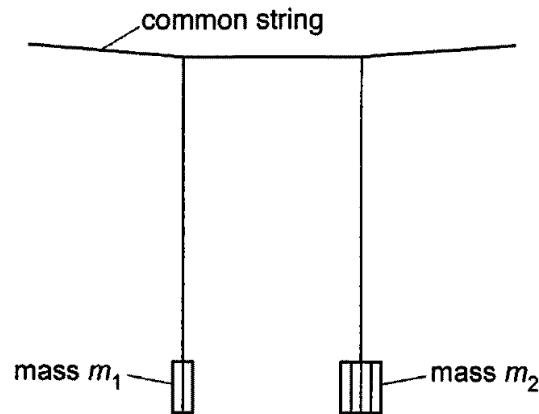

Figure 3.4
- (f) Figure 3.4 shows two pendulums of equal length. The pendulum bobs consist of a number of slotted masses.